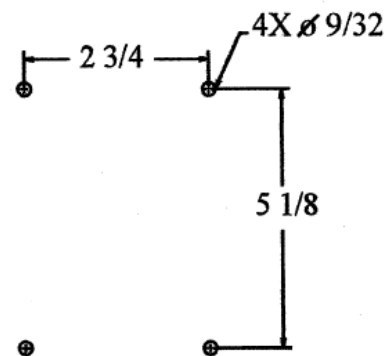

Figure 6. F167/F267, D167/D267 Mounting Pattern
1. Use pattern in Figure 6 for mounting power supply on your machine. Mount power supply following instructions included with power supply.